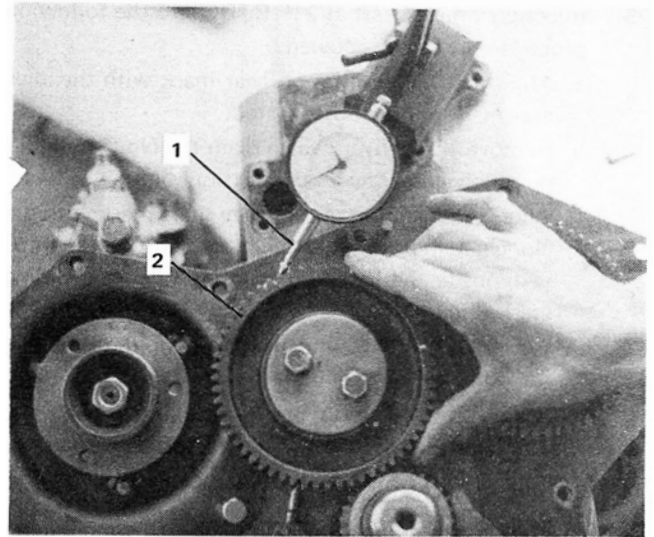

Figure 37
- a. Measure the backlash of the timing gear with a dial gauge. See Figure 37.